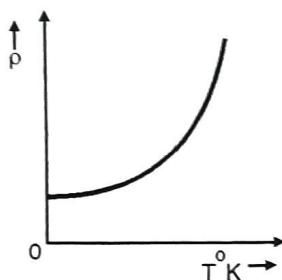

Fig. 5.2.1 : Resistivity →Temperature in non-superconducting state
- When the temperature increases, the amplitude of lattice vibrations also increases thereby increasing the resistance. Refer Fig. 5.2.1.